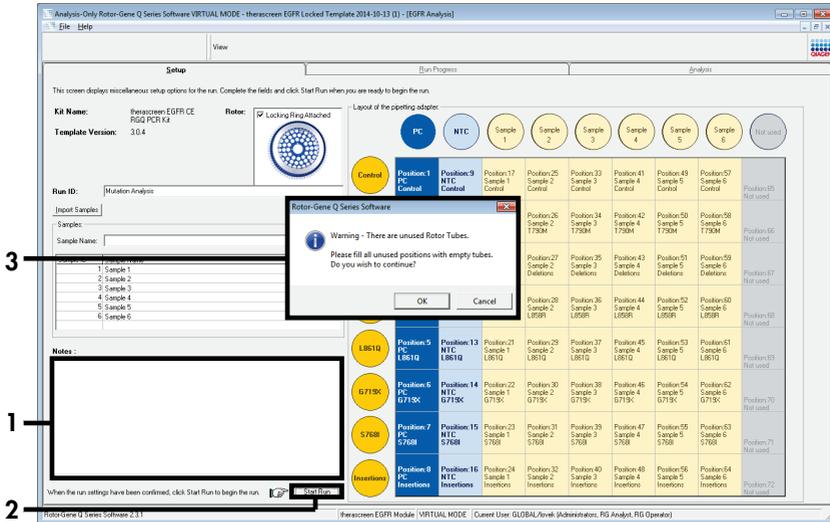

Figure 14. “Notes” field (1), the “Start Run” button (2) and “Warning” of unused rotor positions (3).
16. When all sample names are entered, verify that they are correct. Add any additional information in the **Notes** field if necessary, then click **Start Run** (Figure 14).
Note: If any rotor position is unused, a “Warning” will appear (Figure 14) to remind the user that all unused positions on the rotor must be filled with capped, empty tubes. Check that all unused rotor positions are filled with capped, empty tubes and click **OK** to proceed.